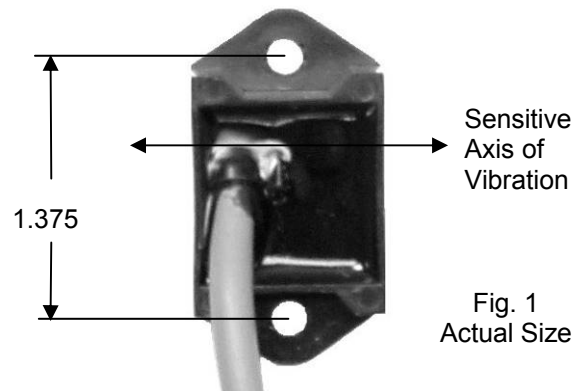
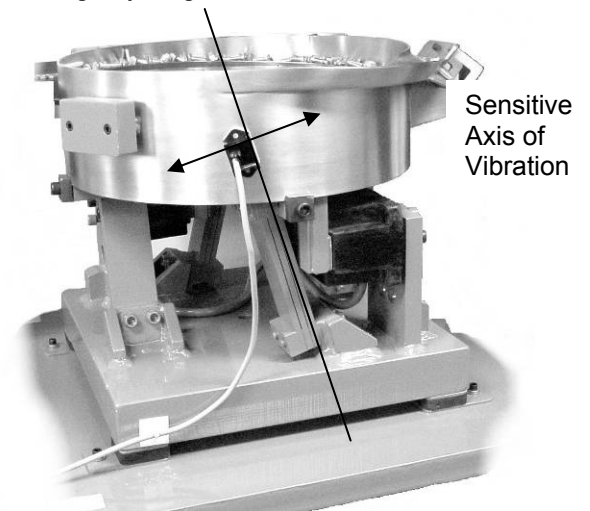

Fig. 1
Fig. 2 The arrow shows the direction of vibration which is at a right angle to the spring pack.
**A. ORIENT THE SENSOR** so that its sensitive axis is in the same direction as the vibration of the feeder. The double-ended arrow in figure 1 shows the sensor's sensitive axis. Align the sensitive axis of the sensor in the same direction as the vibration (see figure 2). The sensor must be oriented correctly for proper operation.
6) Remove the vibration sensor from its protective packaging. Remove the liner from the adhesive backing. Avoid touching the tape. Align the sensor as shown in figures 1 and 2. Apply the vibration sensor to the prepared area of the feeder. Press the sensor very firmly onto the feeder surface for at least 10 seconds.
Use a cable tie and an adhesive-backed mount to attach the sensor cable to the side of the drive base. See Figure 2. Clean the mounting area before applying the adhesive-backed mount.